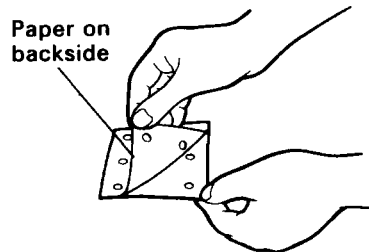

Fig. 2
- (1) Peel off the paper on the backside of the quick stick sanding paper. Since adhesive agent is applied on the paper on the backside of the quick stick sanding paper, make sure that it is not exposed to dust or other particles. Fig. 2.